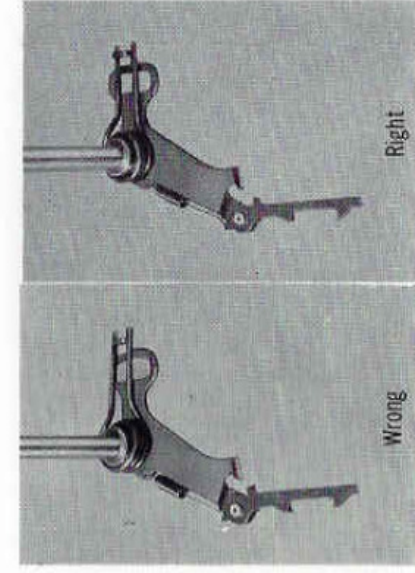

Fig. 8-3-18
13. Fit the **gear shifting shaft return spring**, with less-bent side down to the shaft. (Fig. 8-3-18)